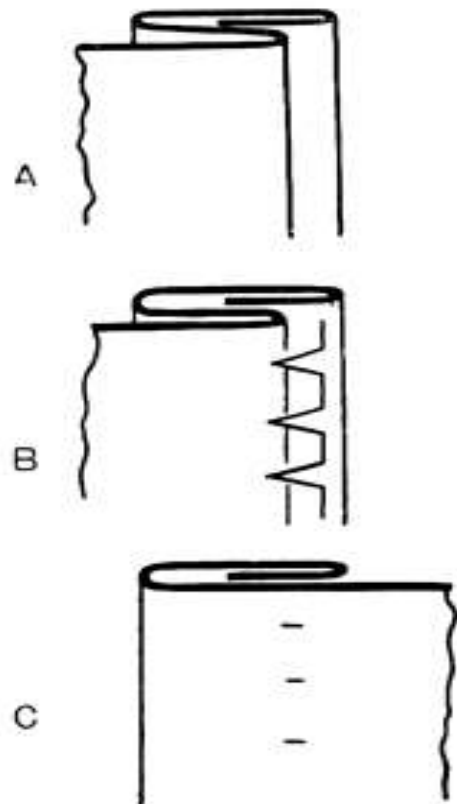

Fig. 37
6. Now fold the material as shown in Fig. 37 A